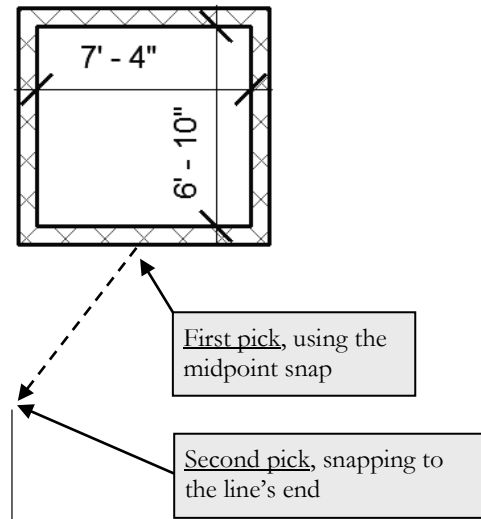

FIGURE 3-3.4 Move elevator shaft into place
15. Snap to the *Midpoint* of the shaft as your first point, and then snap to the *Endpoint* of your temporary detail line (Figure 3-3.4). You should zoom in to verify your snaps. Do not draw the dimensions; they are for reference only.